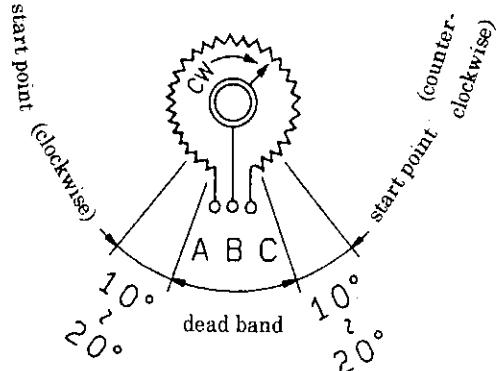

Fig.3 Potentionmeter
- ③ Loosen potentiometer set screws applying power and ensuring output current, then rotate the potentiometer  $10^\circ \sim 20^\circ$  away from dead band (see Fig.3) to decide the start point. Settle the potentiometer with the screws again(Refer "Cautions" !)
- ④ Adjust zero + span with variable resistor.